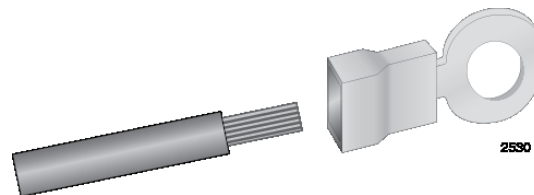

Figure 59. Attaching the Stranded Grounding Wire to the Grounding Terminal
2. Insert the grounding wire into the grounding terminal provided with the power supply and use a crimping tool to secure it to the grounding terminal. See Figure 59,